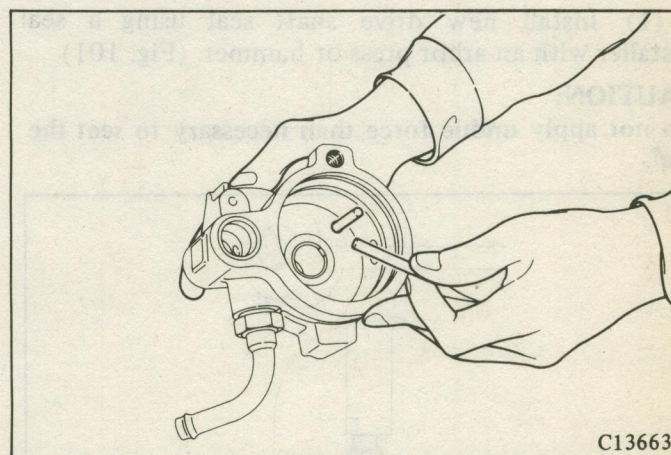

Fig. 100 Removing the Dowel Pins
(9) Remove drive shaft retaining ring and discard.
(10) Remove rotor and thrust plate from drive shaft and both dowel pins from housing. (Fig. 100)